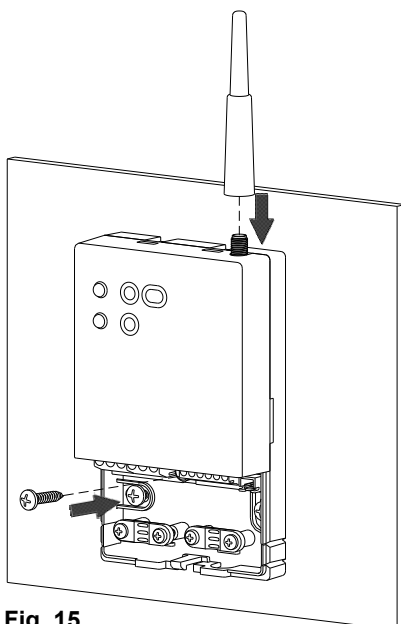

Fig. 15
- ⑨ Place the cover on the base so that the two teeth of the upper part matches the relevant slots and rotate the cover towards the base.
- ⑩ Insert the screw blocking the cover onto the base and screw the antenna onto the relevant connector (Fig. 15).